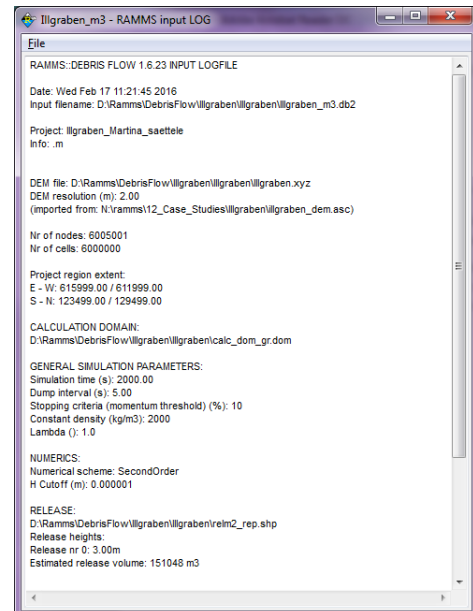

Figure 4.4: RAMMS Project Input Log file.
- (1) Information on simulation time and resolution. Be sure the simulation stopped due to *LOW FLUX*. Otherwise the output *TIME END CONDITION* informs you, that your simulation stopped before the debris flow reached the stopping criteria you defined for the simulation (see section 4.2.5 on page 65).
- (2) Information on simulation results.
- (3) Input logfile (see Figure 4.4).